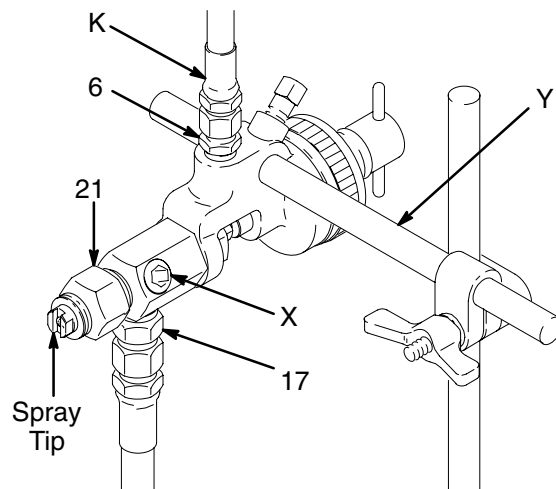
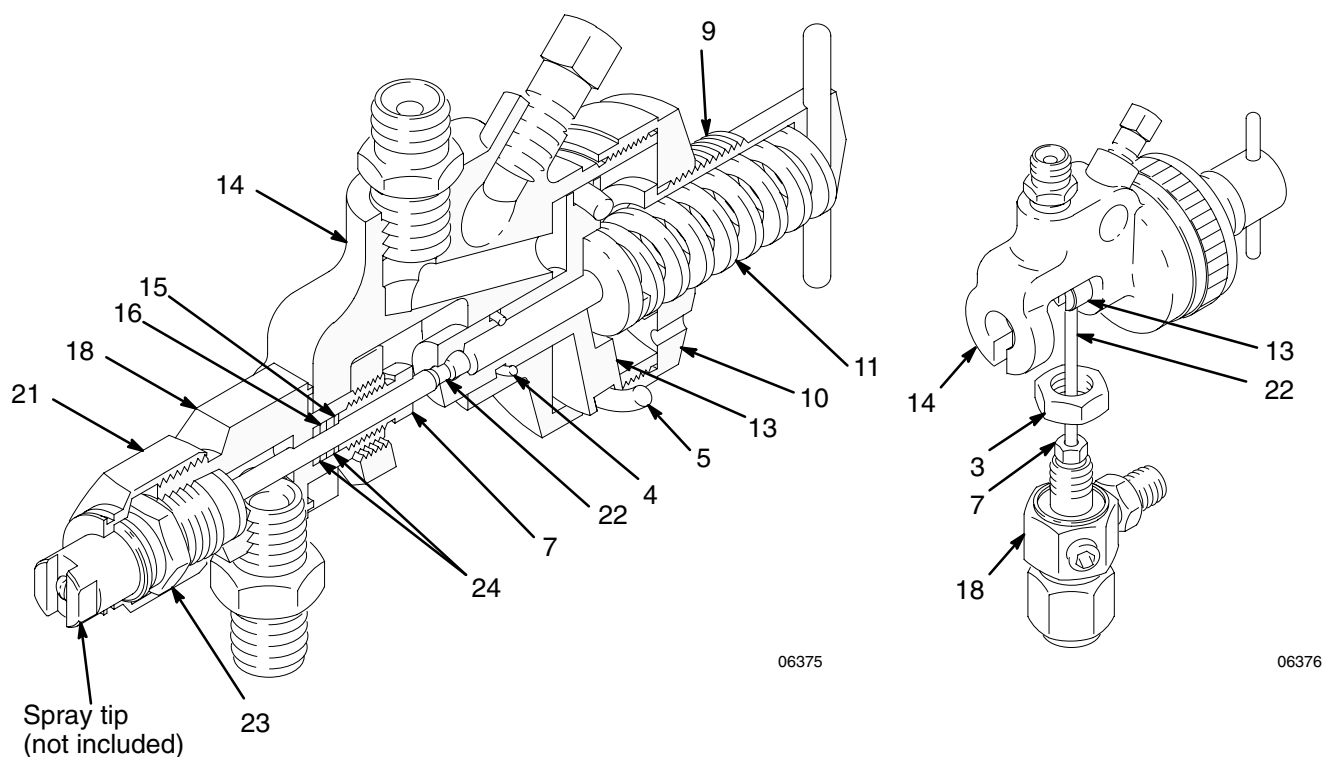

Fig. 1
Fig. 2
Mount the gun on a 0.50 in. (12.7 mm) diameter rod (Y) on a mounting fixture or a spray machine. See Fig. 1 and the **Typical Installation**. The tip of the gun should be 12 in. (305 mm) from the surface of the workpiece (N).
Use a normally closed 3-way air solenoid valve (F) to control the spray gun (J). Attach a grounded air supply line (K) from the 3-way valve to the 1/4 npsm(m) air inlet adapter (6) of the Gun. See Fig. 1.
Relieve the pressure and close the air valves. Unscrew the tip retainer (21) and install the tip, then tighten the retainer. See Fig. 1. Be sure the gasket (19) is installed between the tip and valve seat (23) to prevent leaking. See Fig. 2, page 9. If you are using a tip filter accessory kit, remove the tip retainer (21) and gasket (19) and install the kit with your tip.
Before each day's operation, lubricate the exposed portion of the needle (22) and the piston (13) with a lubricant compatible with the fluid to be sprayed. After lubricating, cover the exposed portions of the needle and piston with a piece of plastic to prevent fluid build-up on these parts. Any spray build-up could damage the valve packings (16 and 24). See Fig. 2.
4. Screw the locknut (3) off the head (18) and align the slot in the air piston (13) with the slot in the gun body (14). Swing the head out of the gun body and slide the needle out of the socket in the air piston.
5. Screw the packing nut (7) out and remove the packings (16 and 24), gland (15), and needle (22).
6. Remove the tip and seat (23) out of the housing. See Fig. 2.